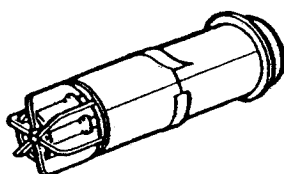

Fig. 26
6. Engage the sections, one inside the other, then open the assembly out to wall thickness. Tape the sections together using the tape provided, ensuring that the seal is good (Fig. 26).